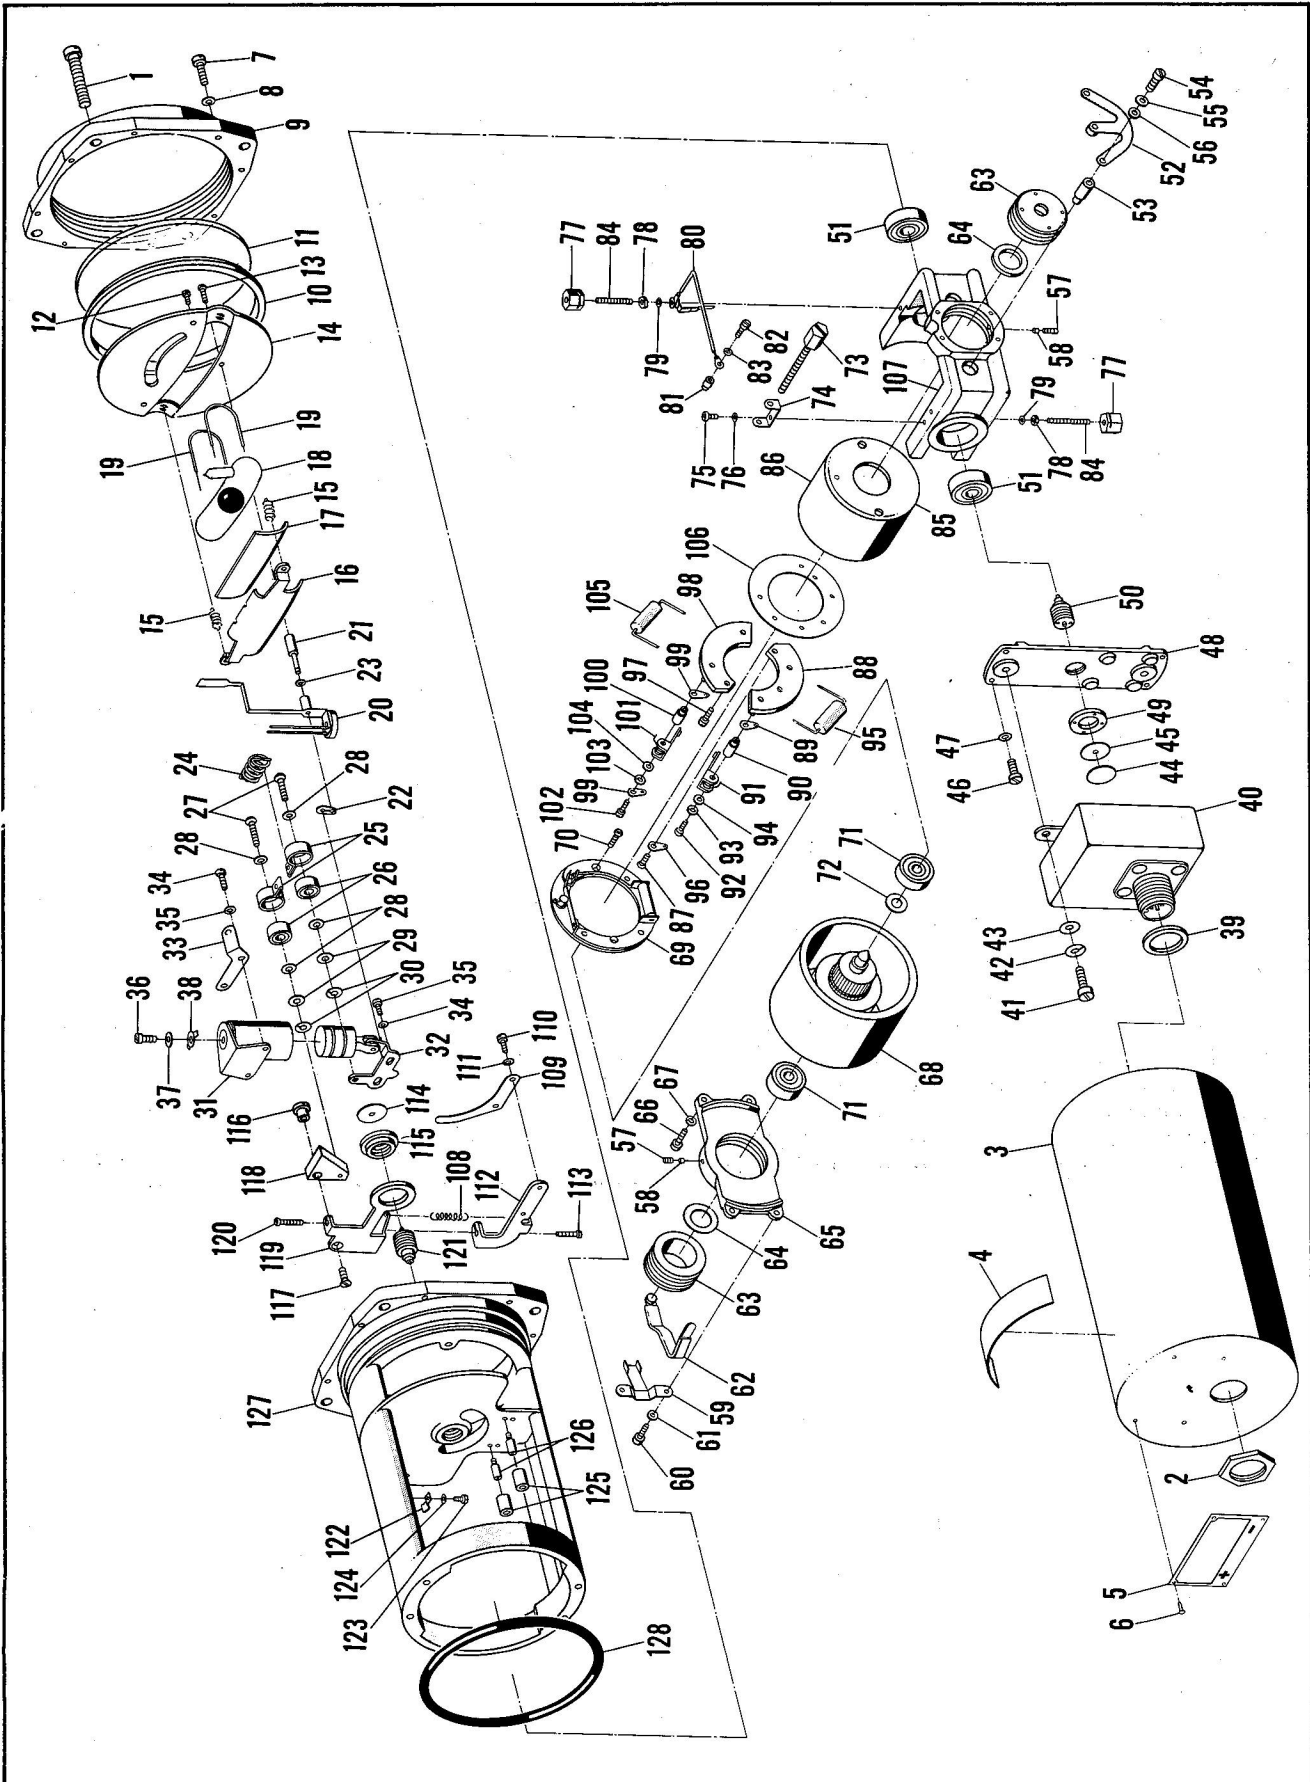
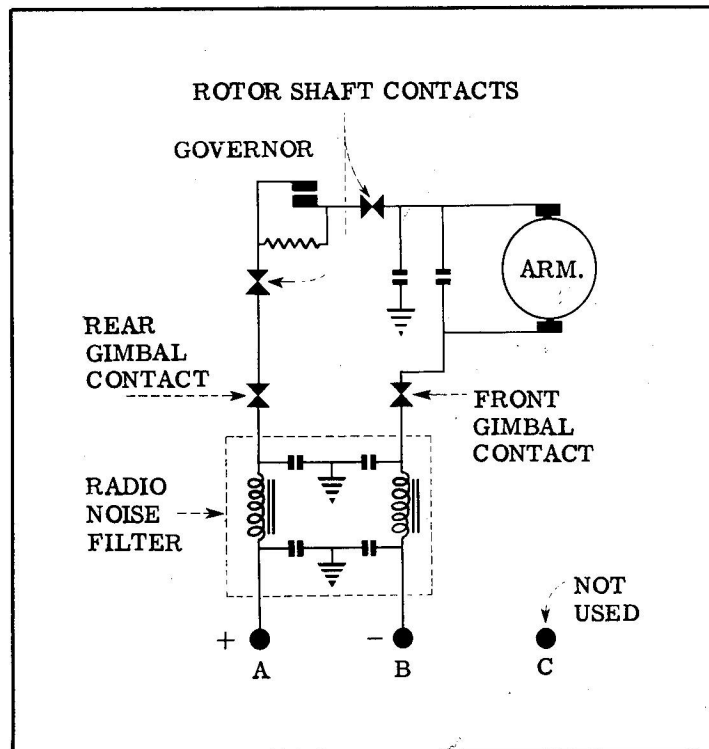

Figure 4-9. Bank and Turn Indicator Assembly, Model B4B-A
Figure 4-10. Wiring Diagram, Model B4B-A
DISASSEMBLY. (See figure 4-9.) Same as Model B4 except that filter assembly (40) replaces individual radio noise filtering components used on Model B4, and insulation (44) is used between insulating washer (45) and the filter assembly. The negative side of the electrical circuit is insulated throughout with insulation (81), and (114), and pivots (90), and (100). Condenser (105) is used between negative brush arm assembly (101) and ground. See figure 4-10 for wiring diagram.
TEST PROCEDURE. Same as Model B4 except that pointer deflections must be within tolerances listed in Table V. See figure 4-10 for wiring diagram.
KEY FOR FIGURE 4-9